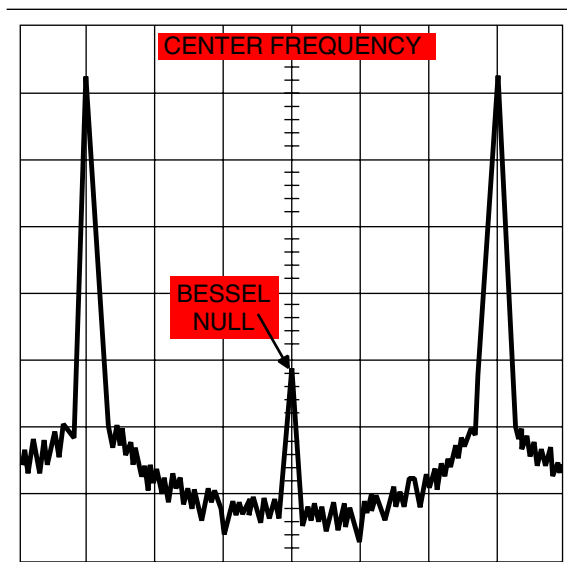

Figure 3-15. Typical Spectrum Analyzer Display of Bessel Null on Φ M Waveform
4. On the 692XXA/693XXA, use the cursor control key to place the cursor under the last 0 in the deviation setting (2.40 rad). While observing the first Bessel null (Figure 3-15), increase/decrease the Φ M deviation with the cursor control key to reduce the carrier as low as possible.